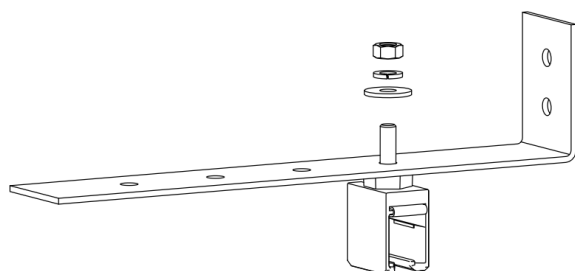
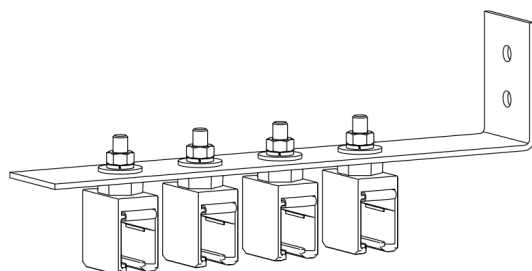

Fig. 58: Insert the hanger clamp into the first hole in the retaining plate
Fig. 60: All hanger clamps are mounted
- Insert the hanger clamp into the hole in the retaining plate and tighten the screw connections from above with the prescribed torque (SW 13, torque wrench: **7 Nm**) (see Fig. 58 to Fig. 60). The retaining clamp of the hanger clamp must be rotatable. A subsequent alignment is not necessary.